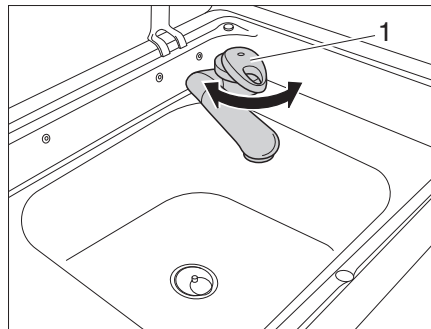

Fig. 47 Sink with water tap
The vehicle is equipped with an installed water canister. An electric water pump pumps the water to the water tap (Fig. 47,1). Opening the water tap automatically switches on the water pump and pumps water to the tap.
- Turn the water tap (Fig. 47,1).
- Turn the water tap (Fig. 47,1) back.